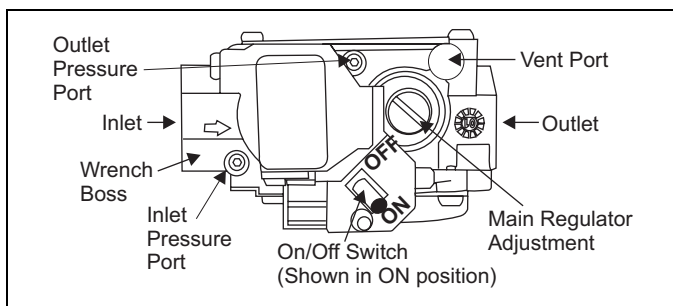

FIGURE 8: Single Stage Gas Valve
5. Move gas control switch to the "OFF" position. Do not force. See Figures 8, 7 or 8.
6. Wait five (5) minutes to clear out any gas. If you then smell gas, STOP! Follow "B" in the safety information above. If you don't smell gas, go to next step.
7. Move gas control switch to the "ON" position. Do not force. See Figures 8, 7 or 8.
11. After three (3) trials for ignition, if the appliance will not operate follow the instructions, "TO TURN OFF THE APPLIANCE" and call your service technician or gas supplier.
4. Move gas control switch to the "OFF" position. See Figures 8, 7 or 8.
3. Check that the ON/OFF switch on the gas valve is turned to the ON position. Refer to Figures 8, 7 or 8.